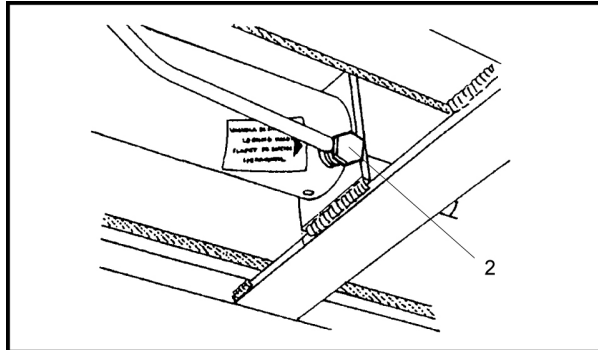

Fig.24 Cylinder locking valve
- If one or more hoses in the hydraulic circuit should break, a cylinder locking valve will operate (Pos.2, fig.24)